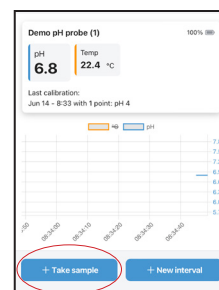

Figure 3
- Select **+ Take Sample** to take a single measurement (Figure 3)